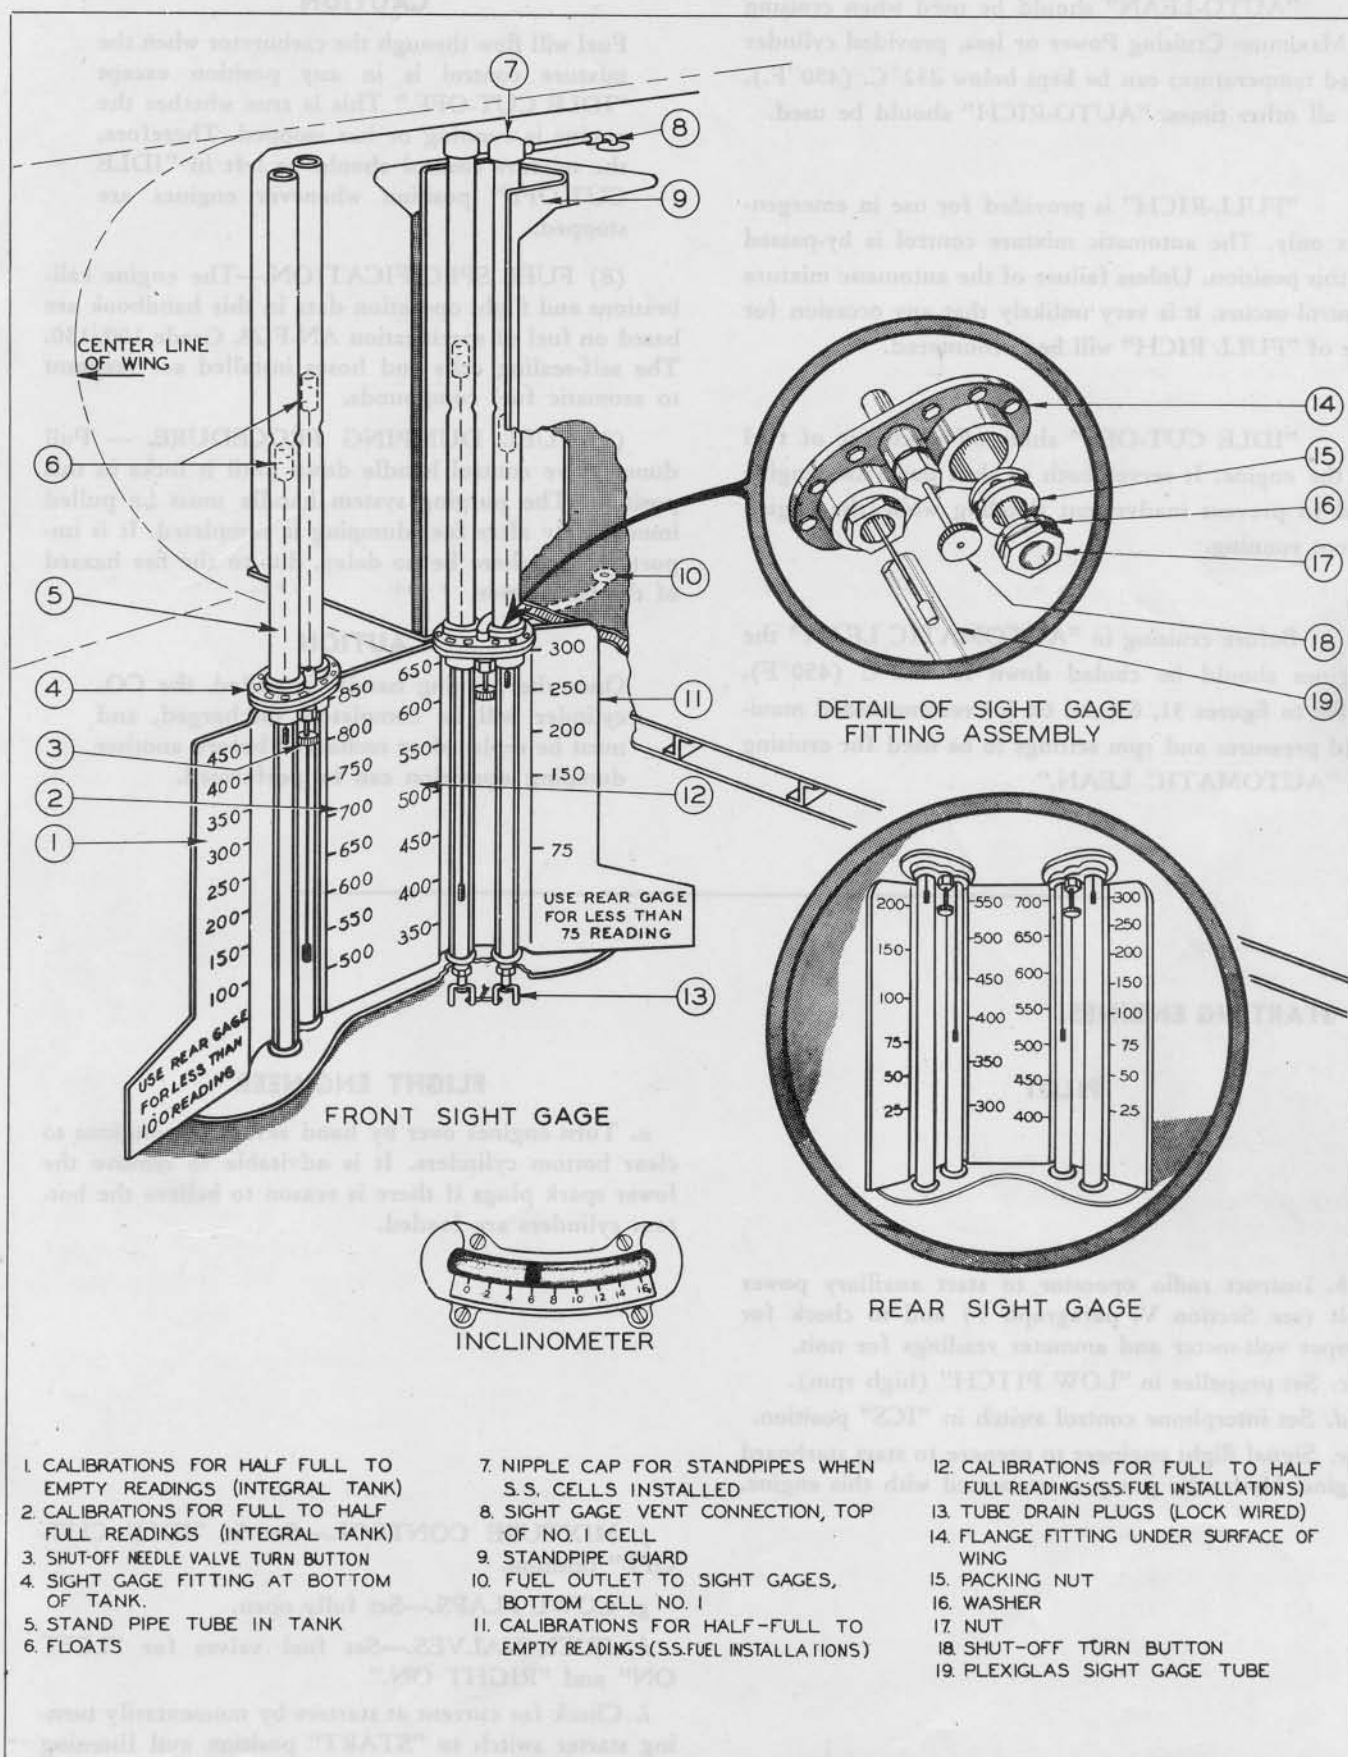

Figure 27—Fuel Sight Gauges
(12) FUEL SIGHT GAGES. (See figure 27.)—Fuel quantity is indicated by the two sets of sight gages. One pair is under the wing front spar, immediately aft of the engineer's instrument panel. The other pair is under the wing rear spar, aft of the engineer's seat. Each sight gage is equipped with a shut-off valve at the top of the tubes and a drain valve in the bottom of each tube. An inclinometer to guide the engineer in making corrections to the sight gage readings at different longitudinal attitudes of the airplane is located on the starboard side of the engineer's compartment.
(13) FUEL PRESSURE GAGES.—Fuel pressure is indicated by the fuel pressure gages which form parts of the two engine gage units on the lower center of the engineer's instrument panel.